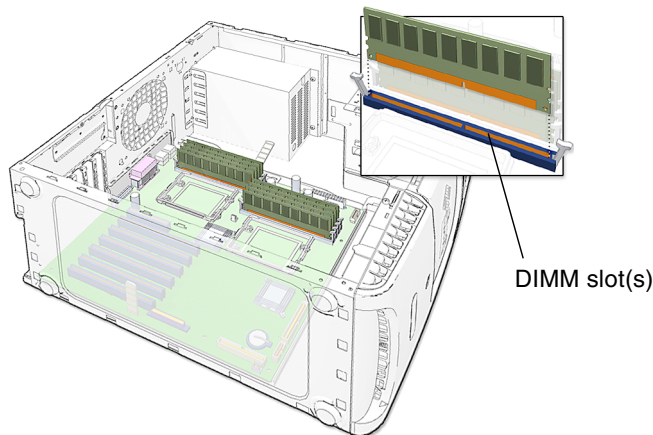

FIGURE 11-5 DIMM Placement on the Motherboard
2. Locate the DIMM slots (FIGURE 11-5).